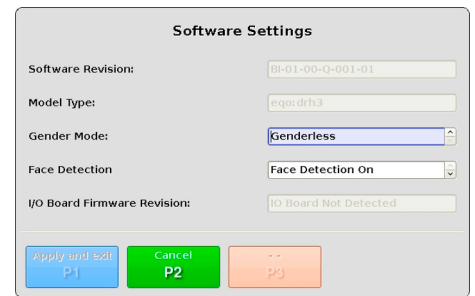

Fig. 39: “Software Settings” dialog
- ▷ In the “Settings” menu navigate to the “Software” menu item and select it by pressing **P1**. The “Software Settings” dialog is displayed (see Fig. 39).